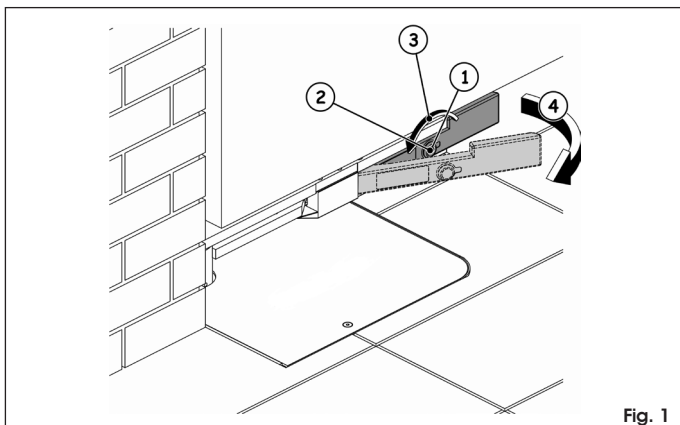

Fig. 1
- insert the release key in the lock (Fig. 1 rif. ②)
- turn the key in the direction of the post, as far as it will go (Fig. 1 rif. ③)
- pull the lever out (Fig. 1 rif. ④)